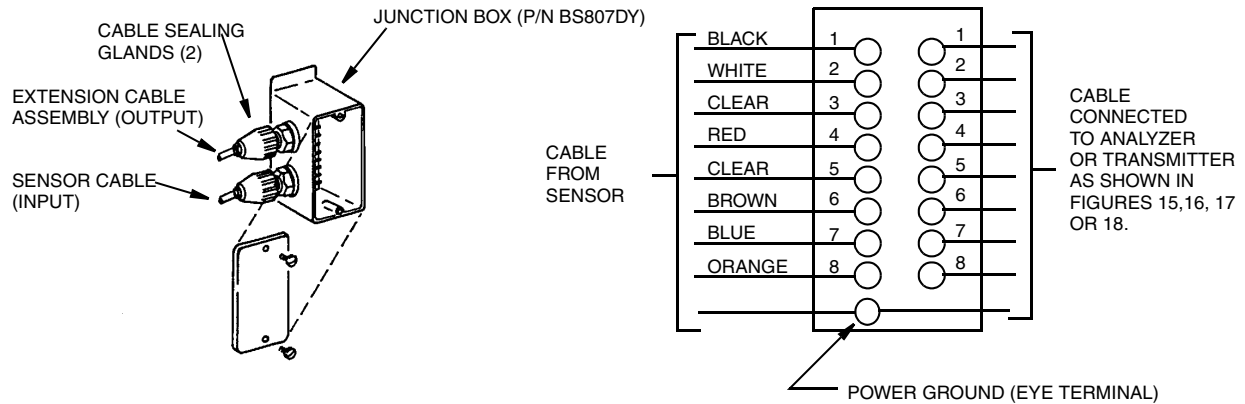
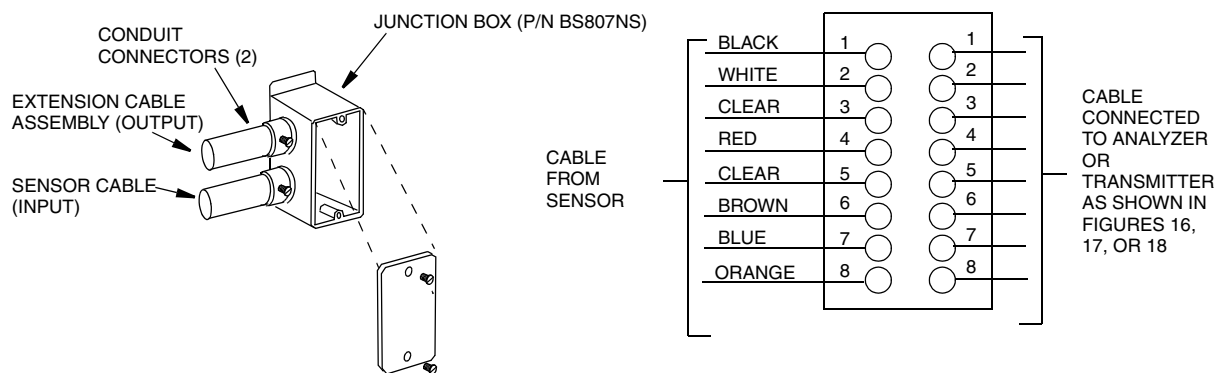

Figure 19. Junction Box Wiring With 9-Conductor Teflon-Jacketed Cable
Figure 20. Junction Box Wiring with 8-Conductor PVC-Jacketed Cable
1. Remove the junction box cover, loosen nuts on cable sealing glands and slide sensor and extension cables through seals. (See Figure 19.)
2. Fasten the numbered wires on the sensor cable to the corresponding numbered terminals on the terminal strip (wires 1-8). The ground wire on the Teflon-jacketed cable has an eyelet and is attached to one of the terminal strip mounting studs (see Figure 19). If PVC cable is used, since there is no ground wire, the user must supply conduit connectors to replace the sealing glands supplied with the junction box so as to insure required EMI/RFI electrical shielding between analyzer/transmitter and sensor. (See Figure 20.)
3. Fasten the numbered wires on the extension cable assembly to the corresponding numbered terminals on the terminal strip. For the Teflon-jacketed cable, the ground wire on the cable is attached to the terminal stud with the ground wire from the sensor. For the PVC-jacketed cable, this ground connection is made through the conduit connections (see Figure 20).